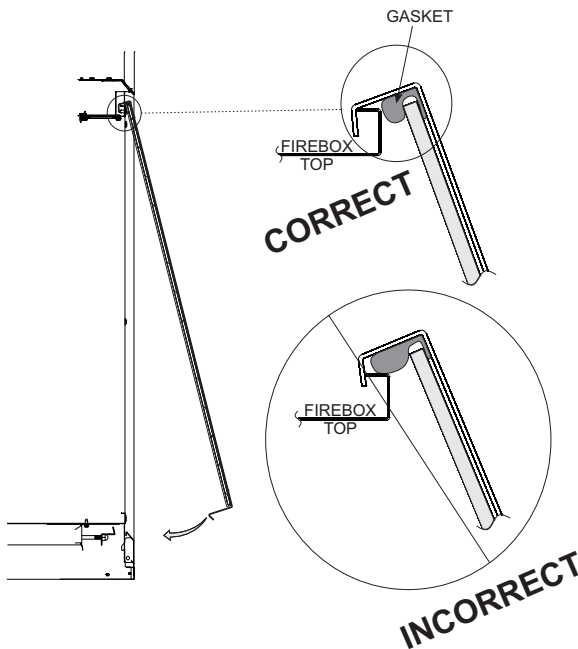

Figure 33
1. When installing the Glass Door assembly, make sure that the door top flange is hooked over the firebox top flange as illustrated in the "Correct" view in Figure 33.
Important: Do not allow the gasket across the top of the door to roll up on top of the firebox flange as shown in "Incorrect" view in Figure 33.